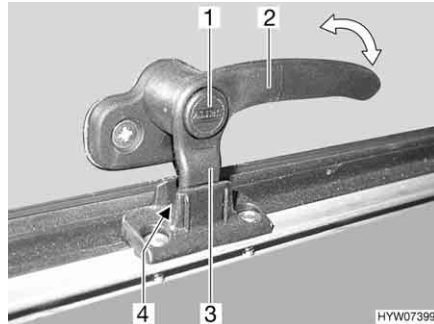
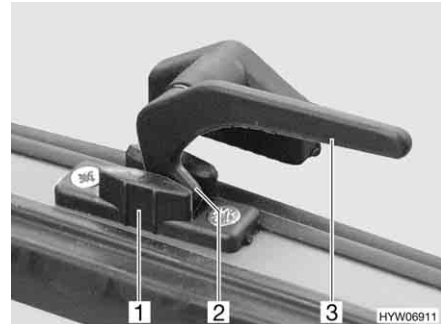

Fig. 76 Catch lever with safety knob in "continuous ventilation" position
Fig. 77 Catch lever in "continuous ventilation" position
- "Continuous ventilation" (Fig. 76 and Fig. 77)
- Press and hold the security button (Fig. 76,1), if present.
- Turn the catch lever (Fig. 76,2 or Fig. 77,3) a quarter turn towards the centre of the window.
- Return the catch lever to its initial position. Move the locking catch (Fig. 76,3 or Fig. 77,2) on the catch lever into the recess of the window catch (Fig. 76,4 or Fig. 77,1).